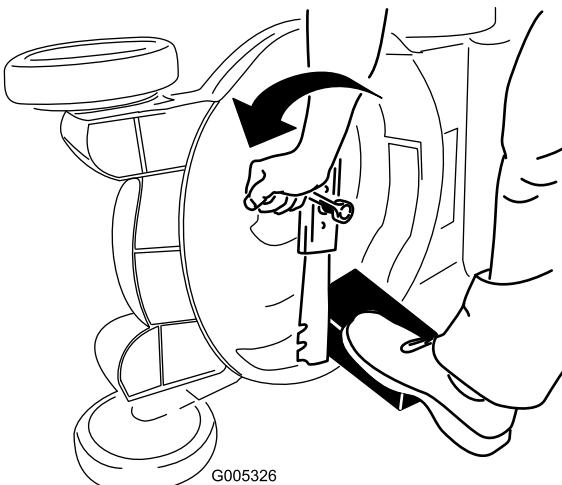

Figure 48
4. Remove the blade, saving all mounting hardware (Figure 48).
3. Use a block of wood to hold the blade steady (Figure 48).